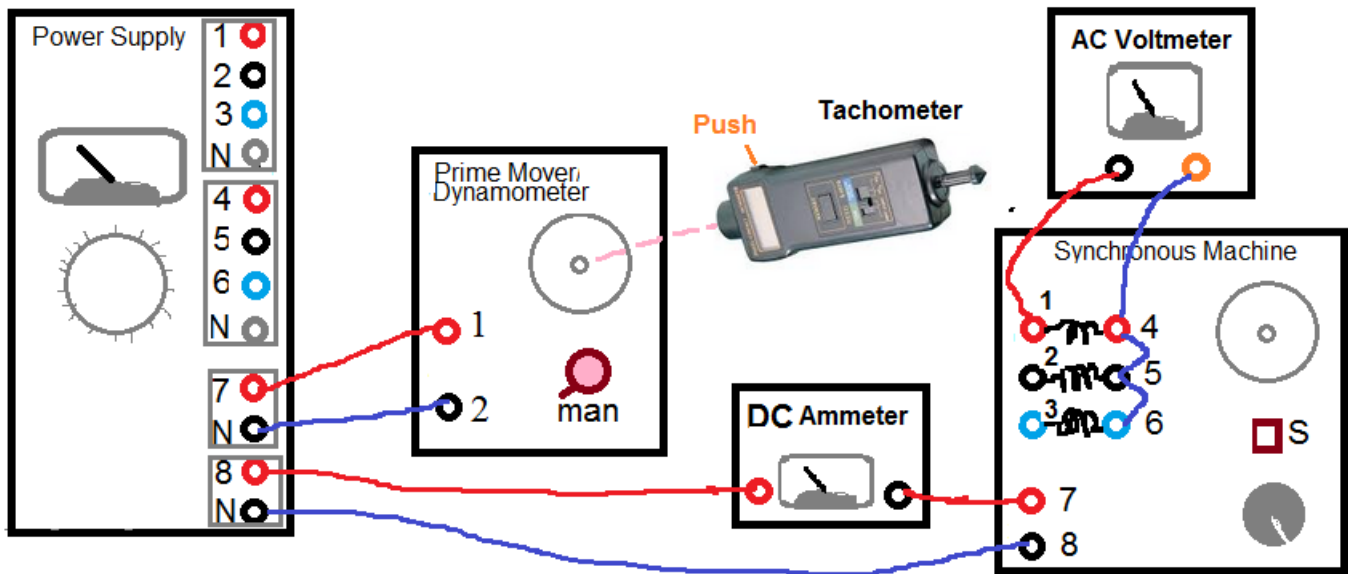
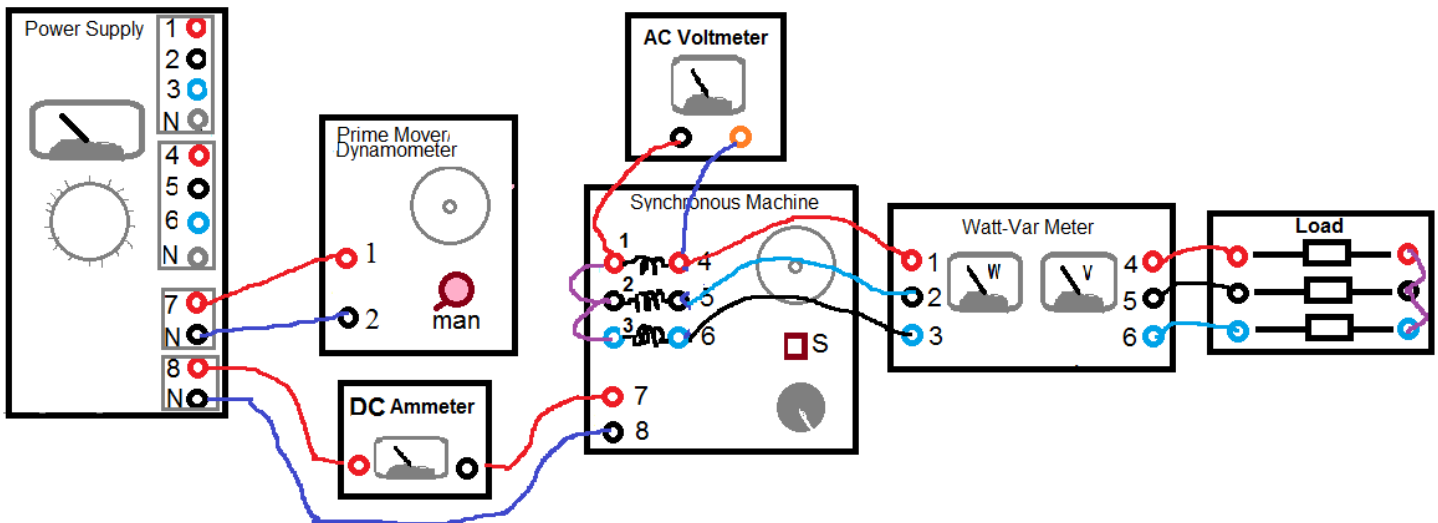

Fig 7-3
Fig 7-5
- 7-2. In this experiment we determine the variation of the generated voltage as the DC exciting current is increased. Set up the circuit as shown in Fig 7-3. Couple the Prime Mover to Synchronous Generator using a timing belt. Connect AC voltmeter from line to neutral of one phase of the synchronous generator to measure the generator voltage  $E_0$ . Connect a DC ammeter to measure the exciting current  $I_F$ .
- 7-6. Using the same set-up as in Fig 7-3, Adjust the open-circuit voltage  $E_0$  to 120 volts.
7-13. In this section, you will find the effect of various loads upon the terminal voltage of the synchronous generator. Connect a resistive load to the generator terminals and introduce a watt-var meter and a voltmeter as shown in Fig 7-5.
7-14. Adjust the exciting current  $I_F$  of the synchronous generator so that the open-circuit voltage  $E_0=120V$ . (Note: this  $E_0$  is not the same as the Line-to-Line voltage ( $E_L$ ) between the terminals 1 and 2 indicated in Fig. 7-5.  $E_0$  is the Phase voltage between terminal 1 and 4 as in Fig. 7-3.)